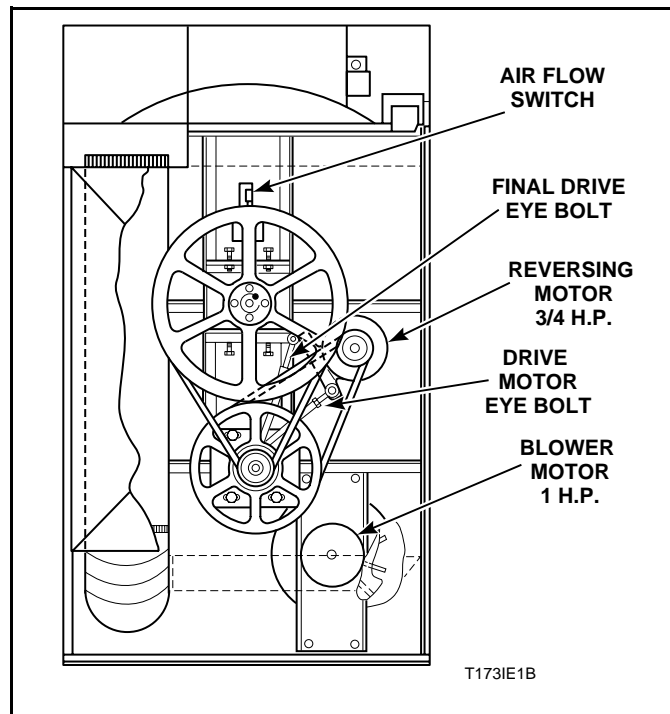

Figure 25
The air flow switch is located on the back of the tumbler, see *Figure 25 or 26*. It consists of a small limit switch wired in series with the gas control transformer. A vane, which is pulled against the tumbler back by normal air circulation, actuates the switch. When air circulation is interrupted, (lint door open, clogged lint screen, inadequate vent, etc.), the vane will not pull in and energize the gas valve circuits.
120 and 170 Pound Reversing Models (see *Figures 25 & 26*)
2. Loosen the upper nut on the final drive eye-bolt (*Figures 25 & 26*).
5. If necessary, adjust the drive motor belt tension eye-bolt using the same procedure as steps 1-4. (*Figures 25 & 26*).